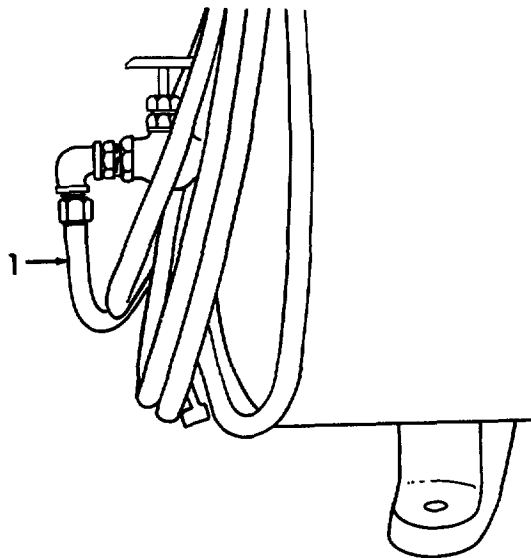

Figure 3-45. Flexible Hose, Removal.
- a. *Removal.* Disconnect flexible hose (1, Figure 3-45).